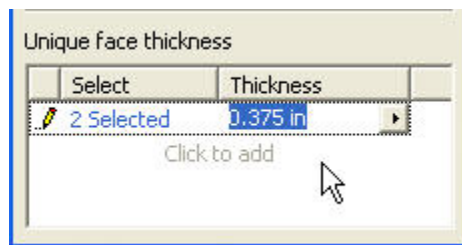

Figure 9
9. After selecting the two faces it will say 2 Selected. Next click on 0.25 under the Thickness tab of the dialog box and type in .375 as the thickness as shown in Figure 9.